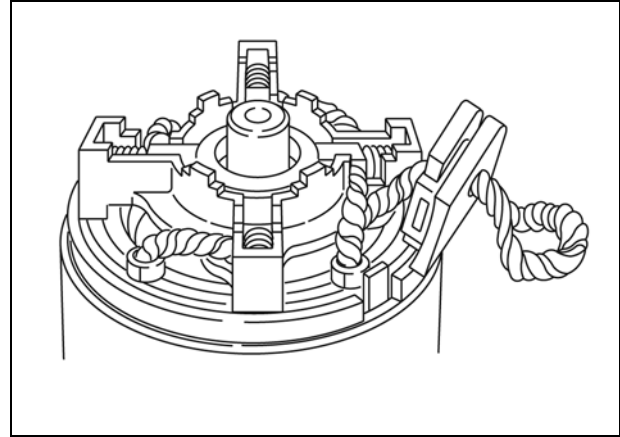

Figure 73
8. Install end cap (Figure 73) and torque thru bolts to values listed in Section 14 - Engine Specifications.